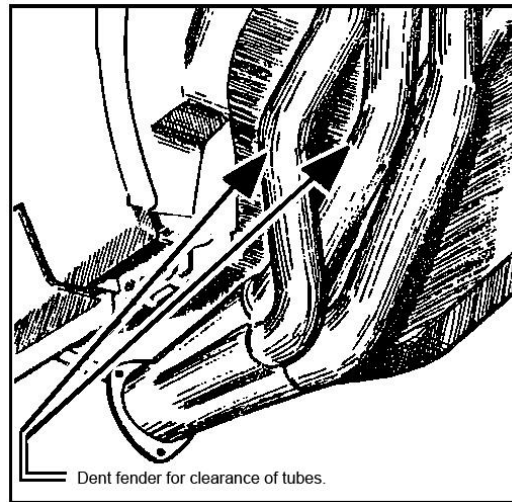

Figure 3
6. Start from above the fender and work the header down and through the hole into position. (The inner fender panel may have to be dented for clearance due to variation in engine location. **See Figure 3.**)